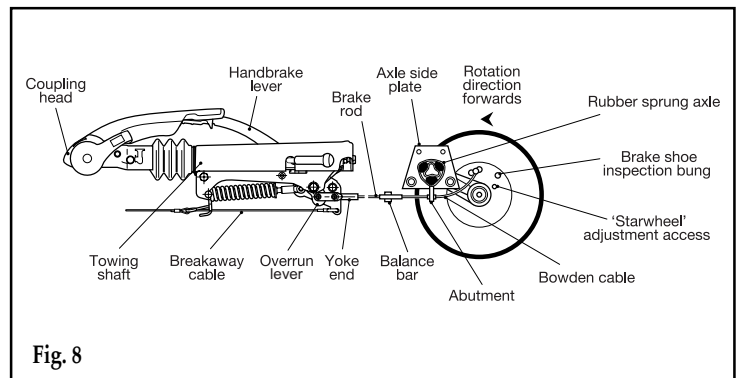
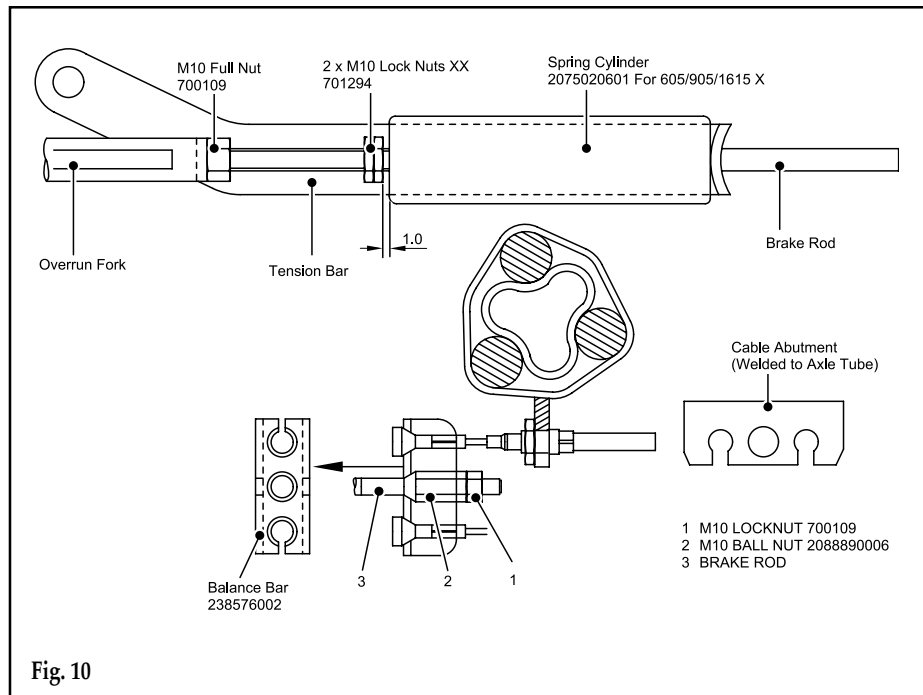

Fig. 8
Fig. 10
- Insert barrel lock (Fig 8).
- The AL-KO Secure is now fitted (fig 10).
- i. Ensure the towing shaft with coupling heads is pulled fully forward (fig. 8).
- ii. Release the handbrake to the fully off position. If the handbrake will not go down the whole way because of the fairing or any other obstruction; then the fairing must be cut away and/or the obstruction removed to achieve this desired position. It will not be possible to set up the braking system properly when the handbrake is not in the fully off position (fig. 8).
- iv. Remove the inner plastic bung from the backplate to expose the 'starwheel' adjuster access (figs. 8 & 9).
- vii. Check the adjustment at the end of the brake cable where it is secured to the abutment (bracket) welded to the centre of the axle. When the inner cable is pulled out it should extend between 5 and 8 mm (fig. 8). (On tandem axles a double abutment is fitted to the front axle only).
- x. Ensure the balance bar (compensation) is being pulled evenly. This bar (double on tandem axles) should always be paralleled with the axle tube when pulled (figs. 8 & 10). Adjust M8 lock and ball nuts, if necessary, to achieve correct parallel position (fig. 10).
Over adjustment to the long ball nut (Fig 10), could induce movement of the inner brake cable, reducing the effective clearance of the brake shoes. If the over run lever will not make contact, it is possible the two lock nuts, forward of the spring cylinder, are incorrectly adjusted. Loosen the nuts and adjust the brake rod as above (Figs 8 & 10).
- xiii. Adjust the two locking nuts, forward of the spring cylinder (fig. 10), (on some chassis a single Nyloc nut is used) to give 1mm of clearance on the spring cylinder. This cylinder (the energy store for the handbrake operation) must be able to rotate only, not slide on the brake rod.
(See Fig. 10). If the overrun assembly is fitted with a gas strut handbrake then no spring cylinder is fitted - therefore ignore this paragraph).